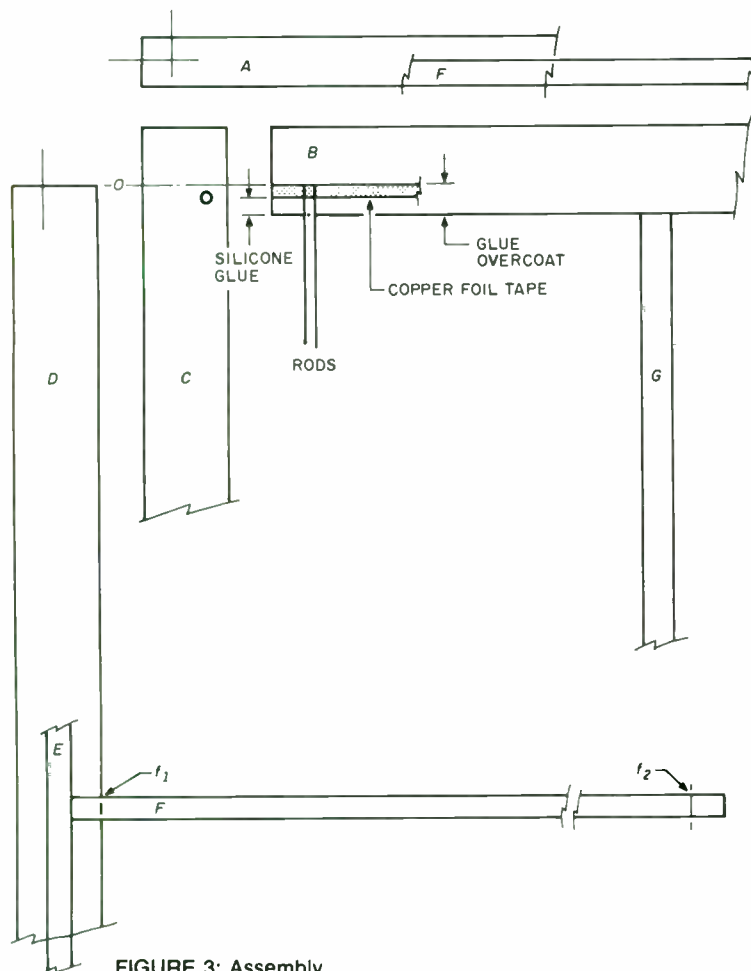

FIGURE 3: Assembly.
**SEGMENTATION.** First, place a strip of conductive copper foil adhesive tape along B's top edge, which you designate as the top of the stator and just inside 0 (Fig. 3). Now you must decide about segmentation. If you are going to do this, figure out the individual lengths of foil required and lay these down next to each other. Each strip should be long enough to include a pigtail to its respective contact screw. Note: On panels to be segmented, the top rib should be used as a terminal strip for the several contact screws. Further discussion of segmentation is beyond the scope of this article.